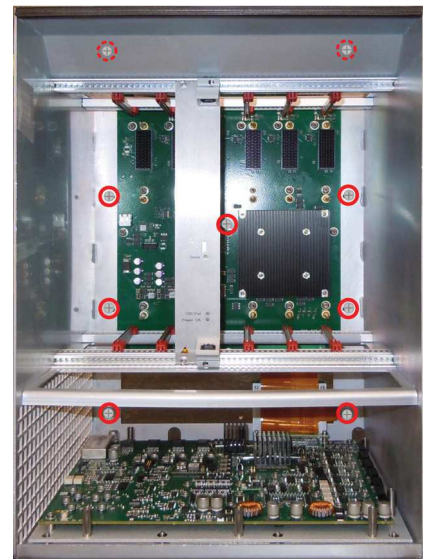
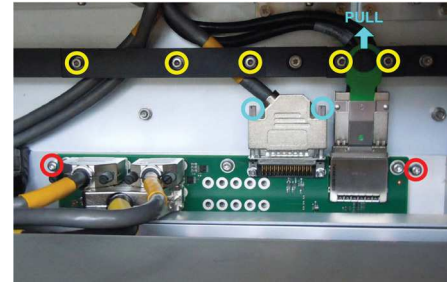

Fig. 7.21 Screws
Fig. 7.22 Support and cables
The location of these is shown with red circles in Fig. 7.21 \(p. 129\). The two upper screws (dotted red circles) are accessible above the Frame Assy (marked with red circles in Fig. 7.22 \(p. 130\)).
- 8 Using Allen 3 mm screwdriver (tools 1/3), remove 5 screws and washers holding two cable supports - shown with yellow circles in Fig. 7.22 (p. 130). Remove the two cable supports.
- 9 Referring to Fig. 7.22 (p. 130), pull the green ring upwards on the rightmost connector to release it from the Motherboard (light blue arrow).
- 12 Mount the connectors removed in step 9 and mount the cable supports removed in step 8 (Fig. 7.22 (p. 130)).